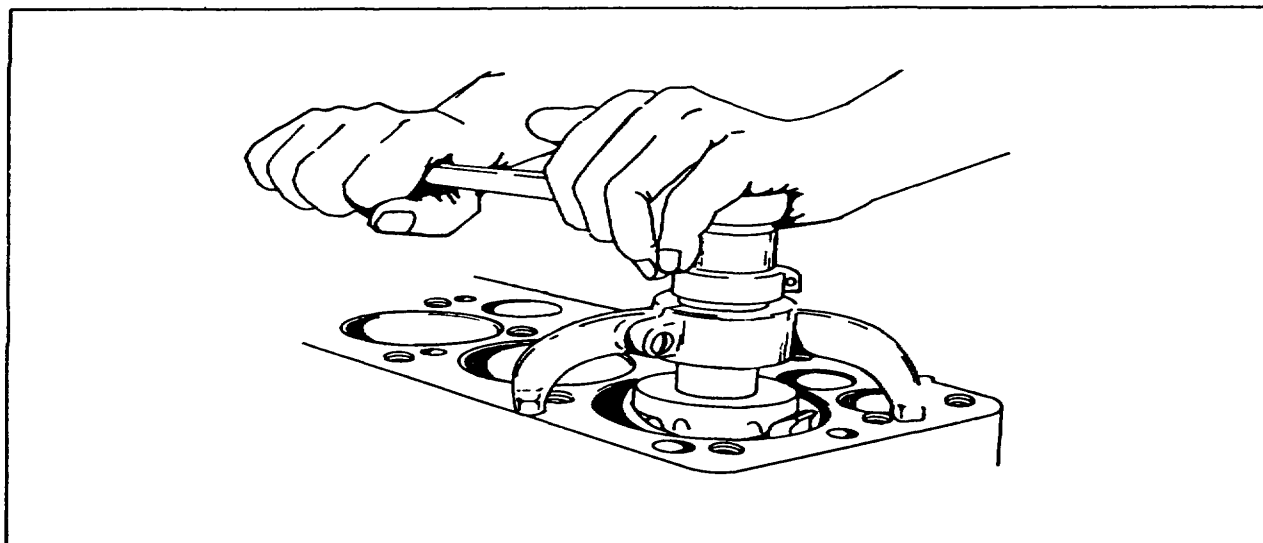

Figure 4-27. Removing Cylinder Top Ridge With a Ridge Reamer
1. Ream top ridge from cylinder bores as shown in figure 4-27 if pistons are to be removed.